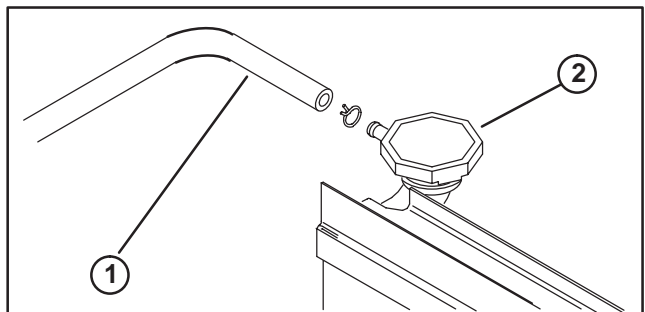

Figure 7
16. Loosen hose clamp securing overflow tube to radiator and slide tube off radiator opening (Fig. 7). Plug overflow tube to prevent coolant from escaping.